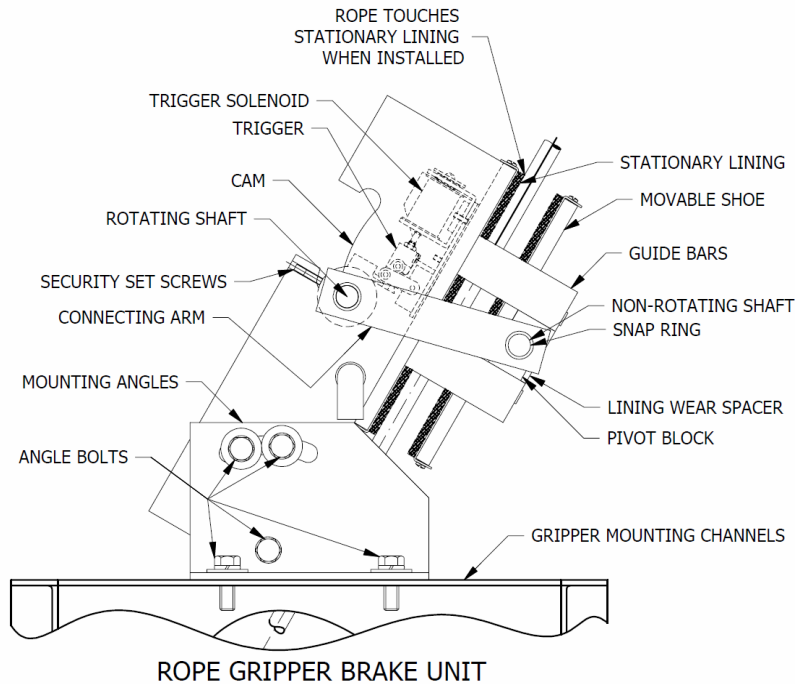

FIGURE 1
- Be sure security set screws are holding the rotating shaft in the LOADED position as shown in **Figure 1** above.